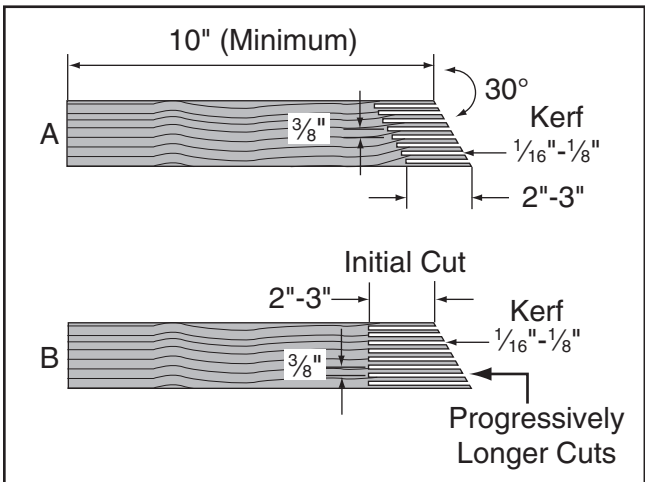

Figure 125. Patterns for featherboards (top view shown).
3. Make a series of end cuts with grain $\frac{3}{8}$ "– $\frac{1}{4}$ " apart and 2"–3" long, as shown in **Figure 125** (A). Alternatively, start cuts at 2"–3" deep, then make them progressively deeper, as shown in **Figure 125** (B).